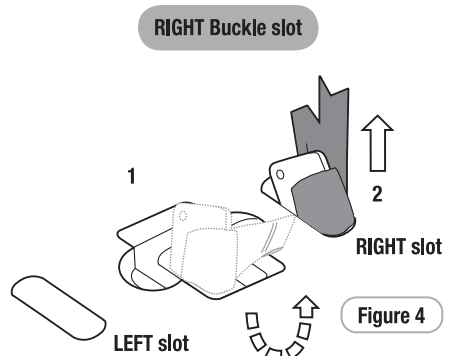

Figure 4
- Step 5:** From the underside of the restraint turn the Buckle adjusting plate and push through the right hand slot to remove the Buckle from the restraint (refer Figure 4).